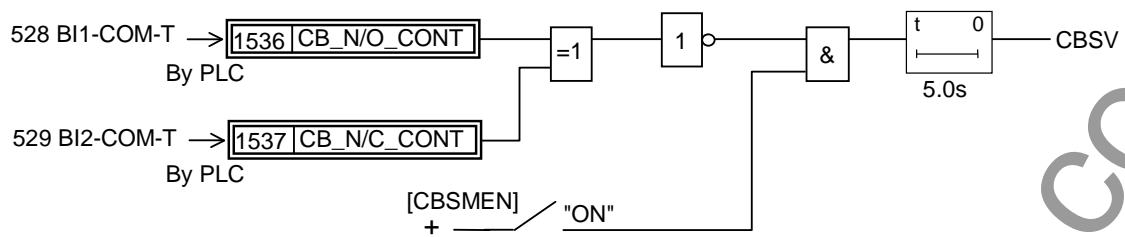

Figure 3.3.7.1 CB State Monitoring Scheme Logic
Circuit breaker state monitoring is provided for checking the health of circuit breaker (CB). If two binary inputs are programmed to the functions 'CB_N/O_CONT' and 'CB_N/C_CONT', then the CB state monitoring function becomes active. In normal circumstances these inputs are in opposite states. Figure 3.3.7.1 shows the scheme logic. If both show the same state during five seconds, then a CB state alarm CBSV operates and "Err:CB" and "CB err" are displayed in LCD message and event record message respectively.